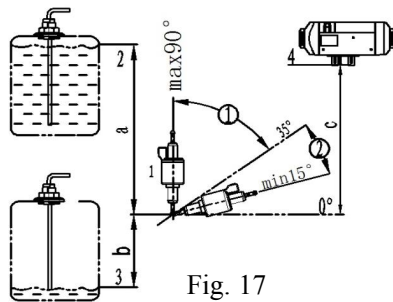

Fig. 17
4.4.1 The fuel pump shall be fixed in automobile with a fuel pump clamp with protective rubber cover. The outlet of the fuel pump shall tilt upwards. The tilt angle can be selected from the range of $15^{\circ} \sim 35^{\circ}$ (as shown in Fig. 17). When conditions permit, the fuel pipe between the fuel pump and the heater shall go up gradually.
4.4.3 Difference in elevation between the level of fuel and the fuel pump as well as the difference in elevation between the fuel pump and the fuel inlet of the heater can produce pressure (or suction) in the fuel pipeline (See Fig. 17). So, these dimensions shall conform to the requirements as follows: